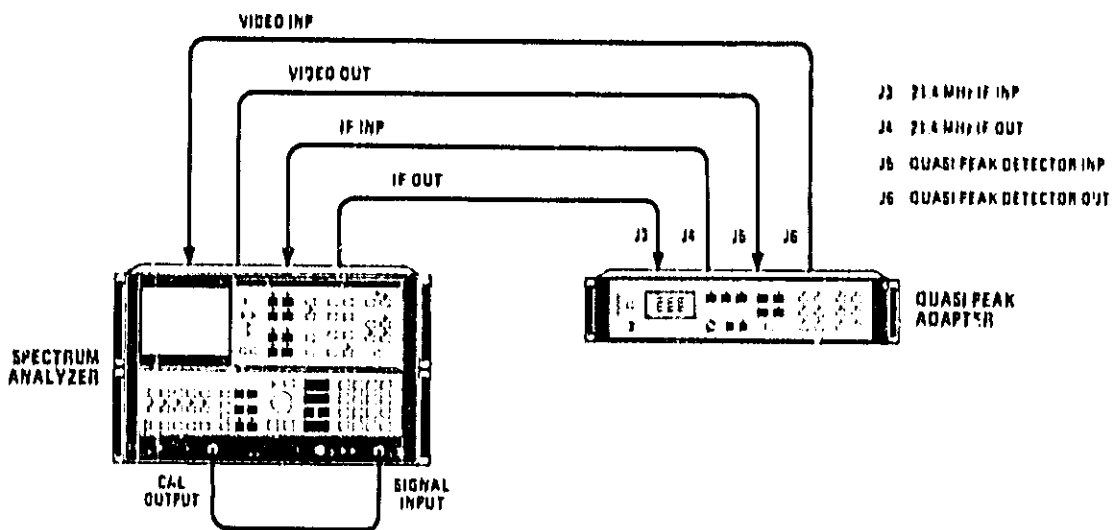

Figure 5-3. Bandwidth Filter Adjustments Test Setup
4. Connect spectrum analyzer CAL OUTPUT to SIGNAL INPUT 2 (RF INPUT) as shown in Figure 5-3.